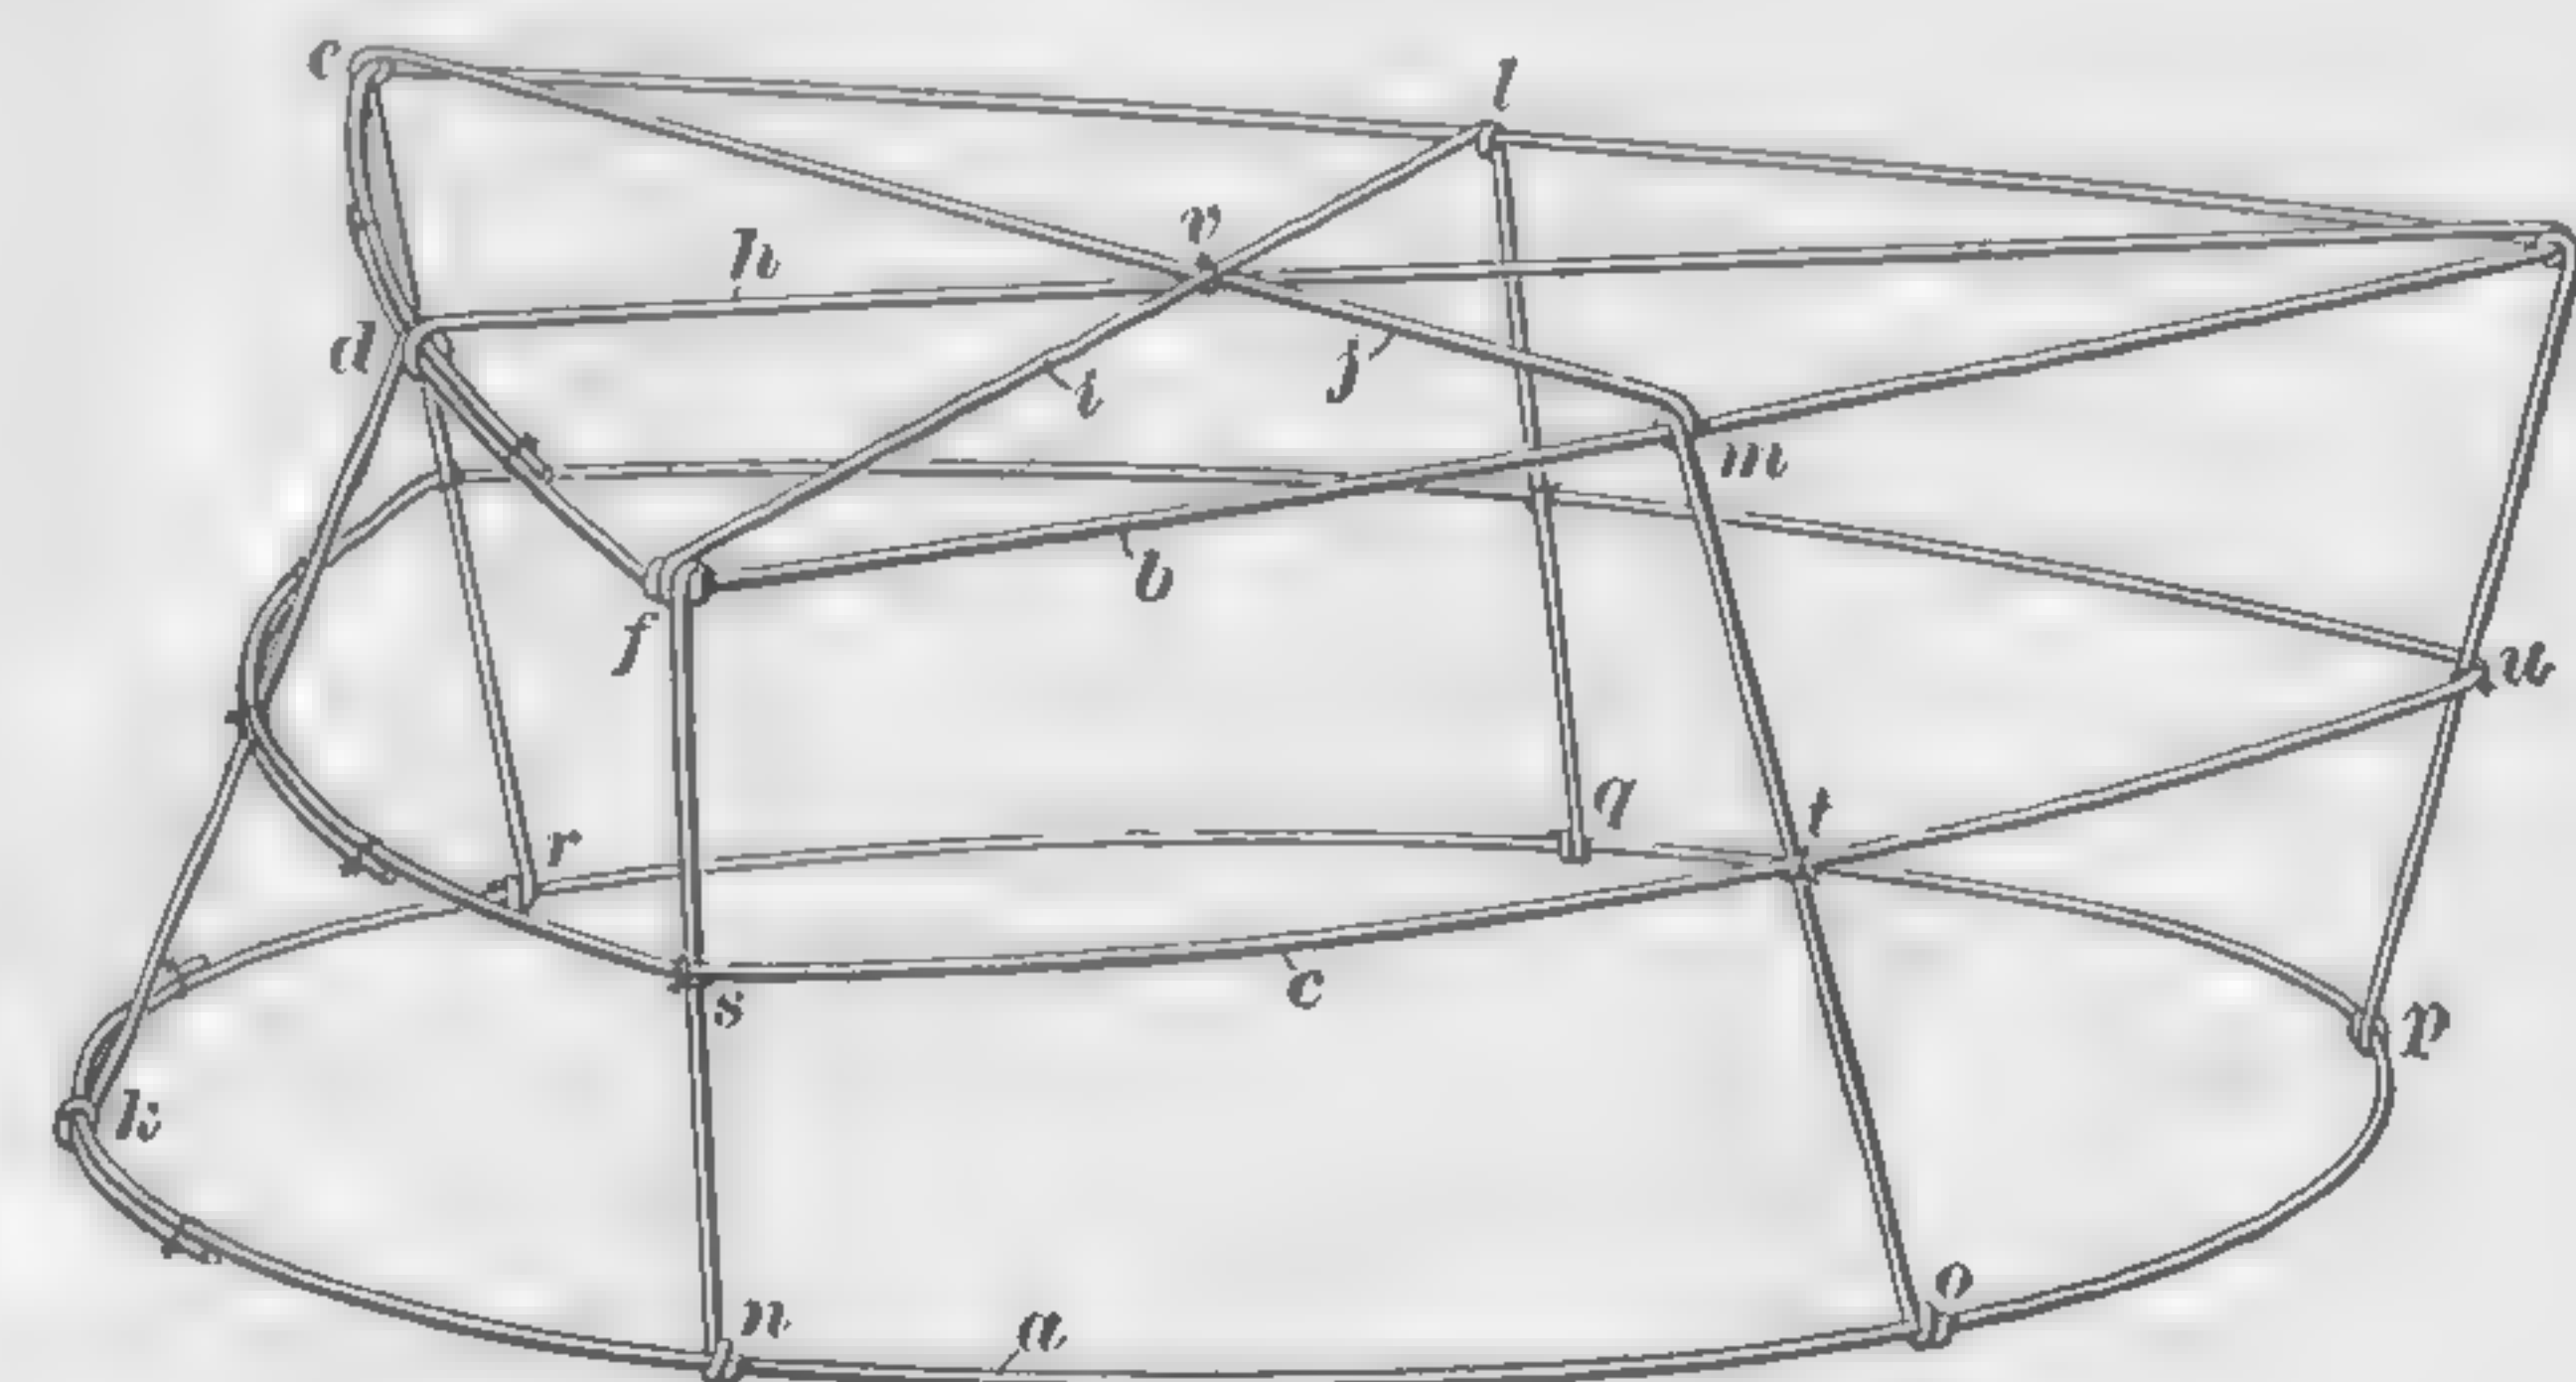

FIG. 24
38. The triangle crown, shown in Fig. 24, is different from the types that have been described thus far, because it has only three support wires. The head-size wire *a* is 24 in. around and is made in precisely the same manner as the head-size wires of the preceding crowns. The top brace wire *b* and the middle brace wire *c* are triangles, each side of which is 8 in. in length. The lengths of the brace wires and of the head-size wire are the same, therefore, or 24 in. Consequently, the brace wires are made at the same time as the head-size wire, and exactly like it, and the two extra circles are then bent to form triangles. To form the top brace wire *b*, for example,
39. The three support wires *h*, *i*, and *j*, Fig. 24, are of the same shape and length. The distance *d g* across the top of the crown is 7 in., and the height *d k* is 3 in. Allowing 2 in. at each end for twisting around the head-size wire *a*, the length required for each support wire is $2+3+7+3+2=17$ in. Take three pieces of brace wire each 17 in. long, and at each end of each wire bend down a piece
40. There are six ends to the support wires in the triangle crown, Fig. 24, and so the head-size wire must be divided into six equal parts. It is 24 in. around, and one-sixth of 24 is 4, so that a paper gauge 4 in. long can be used. If some other head-size than 24 in. is employed, a strip of paper should be cut to the exact head-size, then folded into three equal parts, and one of these three parts should be folded in the middle. One-half of one of these three equal parts is then the correct length of gauge needed to divide the head-size into six equal parts. Begin at the point *k*, and mark the points *n*, *o*, *p*, etc. Lay the head-size wire *a* on the bent-up ends of the support wires, with the point *k* directly beneath *d*, and twist the ends of the wire *h* around the head-size wire at *k* and *p*. Twist the ends of the other support wires around the head-size wire at the other points *n*, *o*, *q*, and *r*. Now take a paper gauge $1\frac{1}{2}$ in. long and mark the points *s*, *t*, *u*, etc., midway between the top brace wire *b* and the head-size wire *a*. Put on the middle brace wire *c* and tie it fast at the points *s*, *t*, *u*, etc., add a tie wire at *v* to hold the support wires together, cut off the ends of the support wires close to the head-size wire *a*, flatten the twists with the pliers, tighten all the tie wires, and the crown is finished. It can be made with 4 yd. of brace wire.